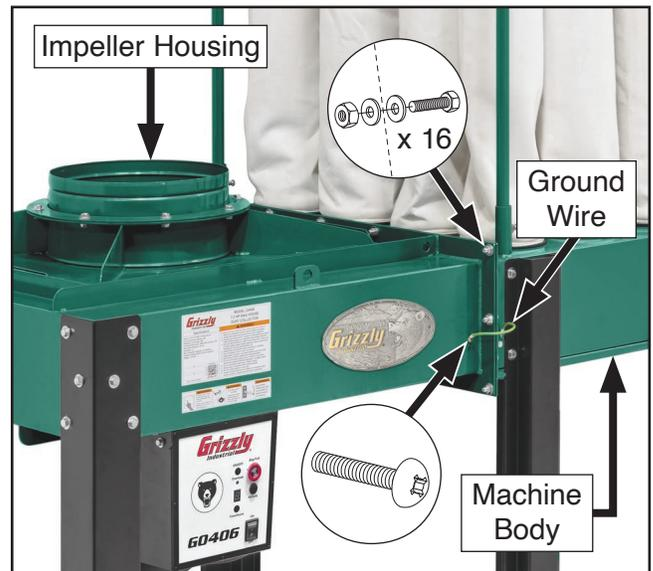

Figure 36. Impeller housing attached to machine body.
18. Position impeller housing flange flush with machine body flange, then place (1) vibration pad under each leg.
20. Secure impeller housing to machine body with (16) $\frac{3}{8}$ "-16 x 1 hex bolts, (32) $\frac{3}{8}$ " flat washers, and (16) $\frac{3}{8}$ "-16 hex nuts (see **Figure 36**). Hand-tighten fasteners for now.
21. Attach ground wire to impeller housing with pre-installed Phillips head screw shown in **Figure 36**.